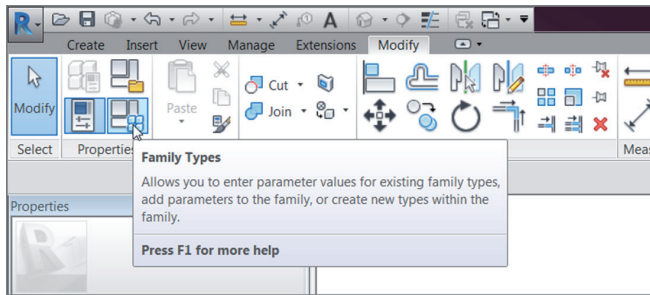

FIGURE BC2.8: The Family Types button on the Properties panel
1. On the Properties panel, click the Family Types button, as shown in Figure BC2.8.